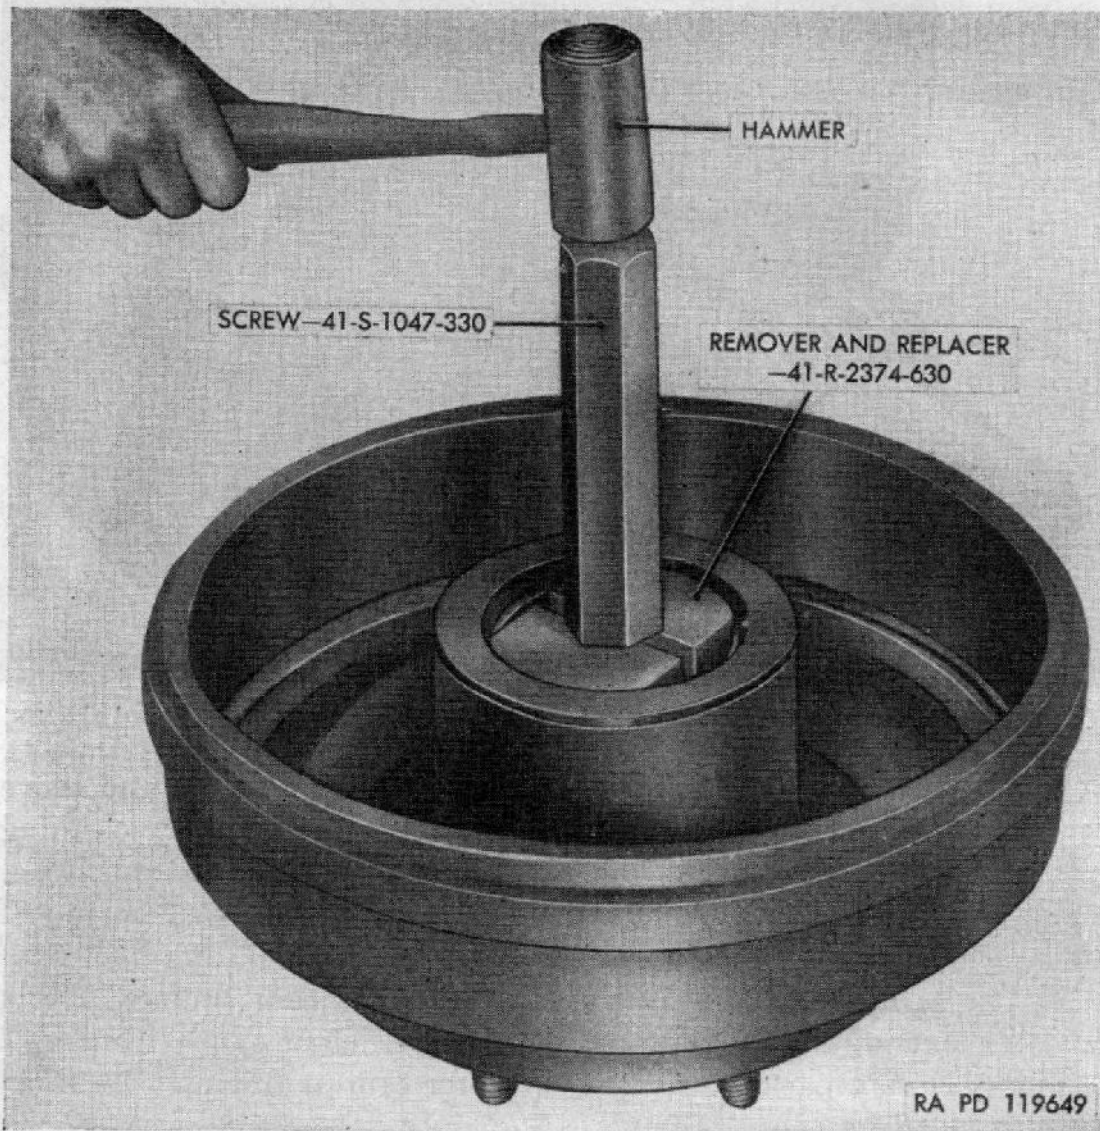

Figure 131. Installing inner bearing cup using remover and replacer 41-R-2374-630, and screw 41-S-1047-330.
f. WHEEL BEARING CUP REPLACEMENT (fig. 131).
- (1) *Removal.* Remove hub (*a* above). Install remover and replacer 41-R-2374-630 and screw 41-S-1047-330 in bearing cup. The remover and replacer is first pushed together and placed in position in bearing cup. Spread the two parts and insert screw. Drive out bearing cup with hammer. Turn hub over and remove other bearing cup from opposite side of hub in same manner.
- (2) *Installation.* Position bearing cup in hub and install remover and replacer 41-R-2374-630 and screw 41-S-1047-330 in bearing cup (fig. 131). Drive bearing cup into place with hammer. Turn hub over and install other bearing cup in same manner. Install hub (*b* above).